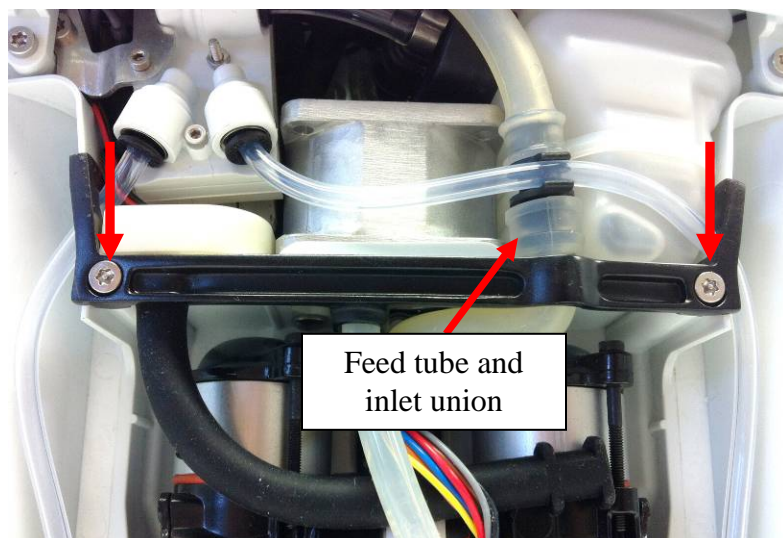

Figure 12: Tube bracket screws
4. Remove the two screws that connect the tube bracket to the chassis and set the tube bracket aside (Figure 12).
5. Unplug the dual feed tube from the black inlet union using a flathead screwdriver (Figure 12).
5. Plug the other end of the dual feed tube back into the black inlet union and clip the small clear tube back into its allotted space on the black inlet union. Make sure the feed tube is fully connected. Align the feed tube and inlet union assembly into the slot on the chassis (Figure 12).
6. With the tubing reattached, make sure that all tubes are oriented in their respected positions on the tube bracket before reinstalling the tube bracket and securing the two screws (Figure 12). Tighten screws to 6 in-lbs.